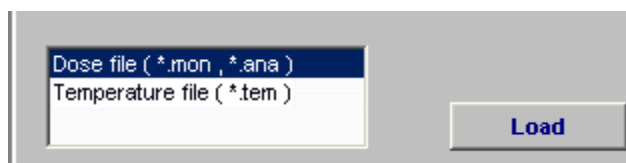

Fig. 22. Frame “Load”.
- **Select the file in the frame “Load”. (See Fig. 22).**